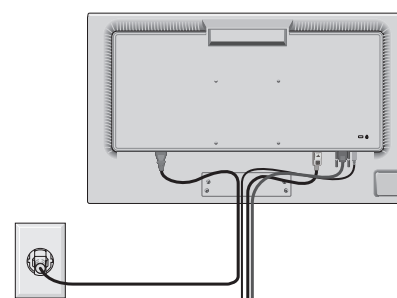

Figure R.3
4. Connect the AC cord and signal cable to the back of the monitor (**Figure R.3**).